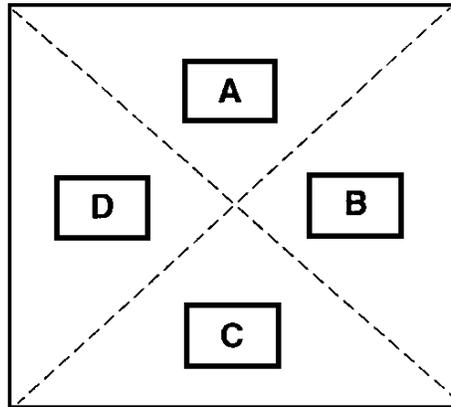

Figure 4.3 Platter Diagram For Shift Test
Set the indicator in expanded mode. (Refer to the technical manual of the indicator or parts counter.) Place test weights equal to one-half scale capacity sequentially at each of the positions A, B, C and D, as shown in Figure 4.3. Note the indicator reading at each position.
* In addition to meeting tolerance, the range of error in a shift test (A, B, C and D in Figure 4.3) must not exceed the maintenance tolerance value (3d, 2d). Ref. H-44, T.N.4.4.